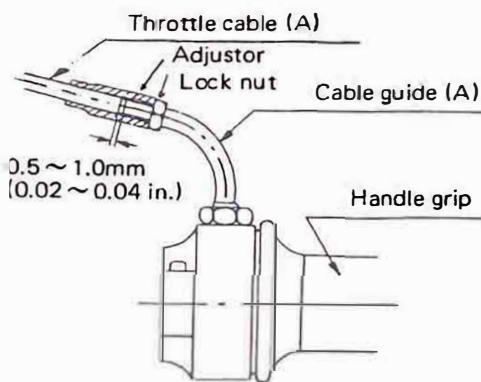

Fig. 2-3-6
- b. Next, adjust throttle cable (A) so that the gap as shown in Fig. 2-3-6 below will be between 0.5 and 1.0 mm. (0.02~0.04 in.)